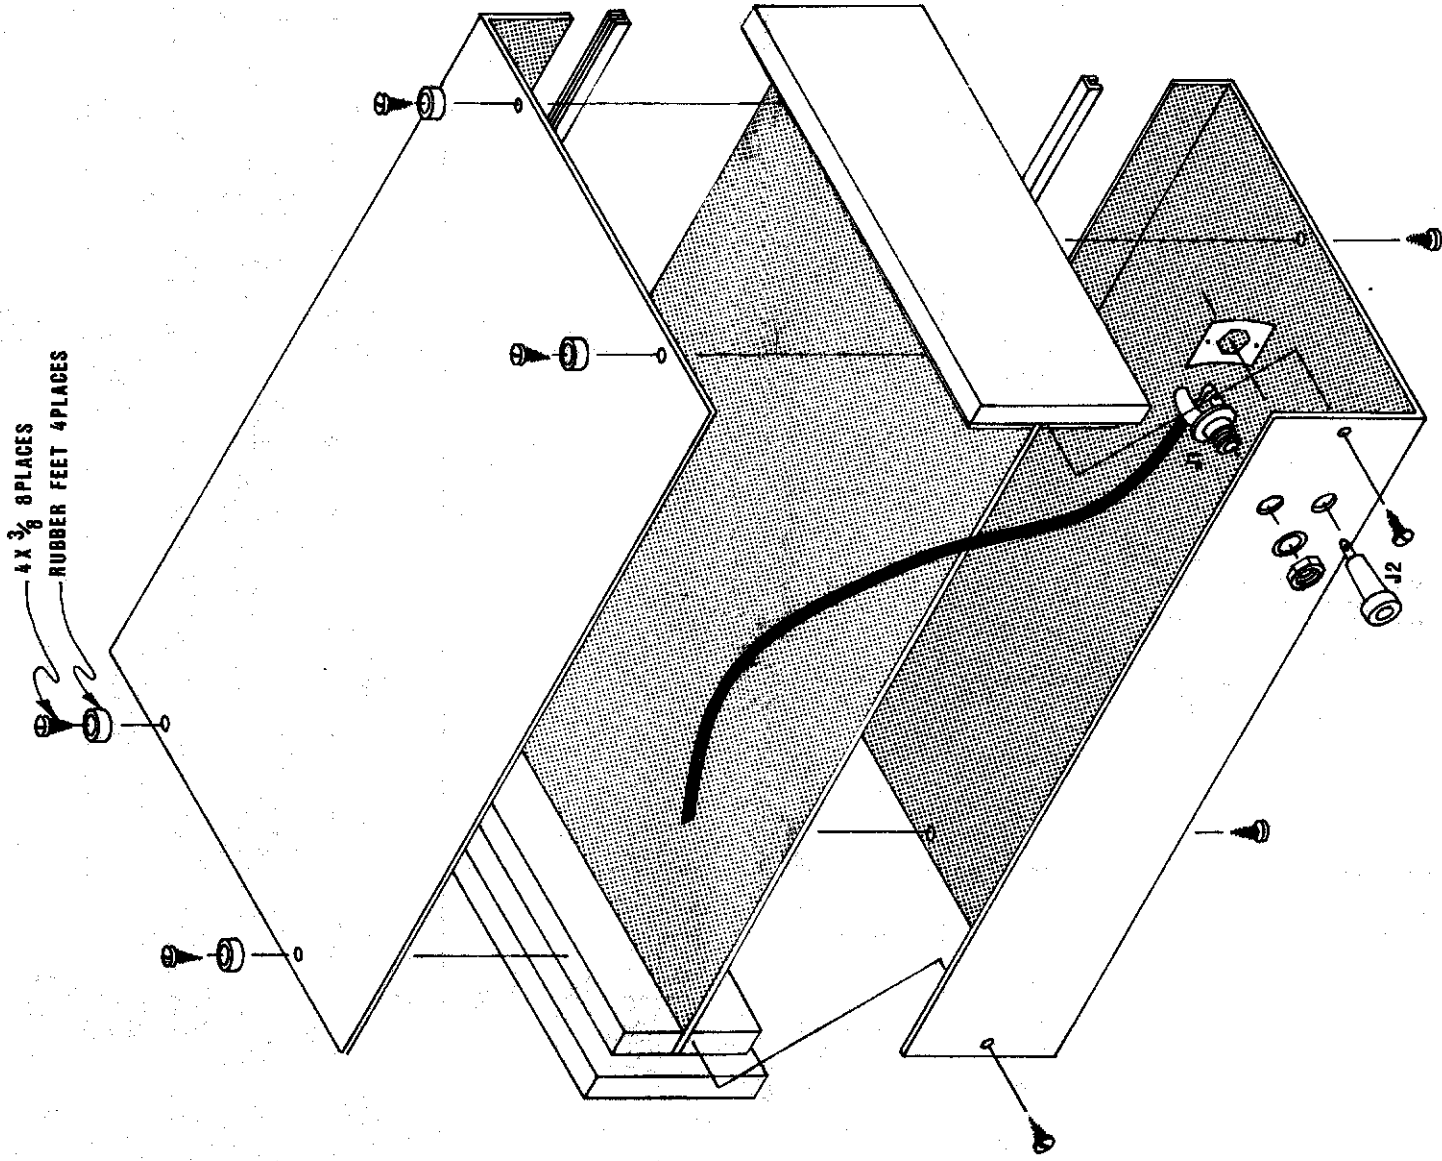

Figure 9
- () Mount the 1/4-inch phone jack in the case top as illustrated in figure 9.
- () Using four #4 X 3/8-inch wood screws and four rubber feet mount the case bottom to the woodends as illustrated in figure 9. NOTE: Before fastening the case bottom down make sure that the battery pack and the 9 volt battery are firmly wedged in place by the foam tape mounted on the circuit board and case bottom.